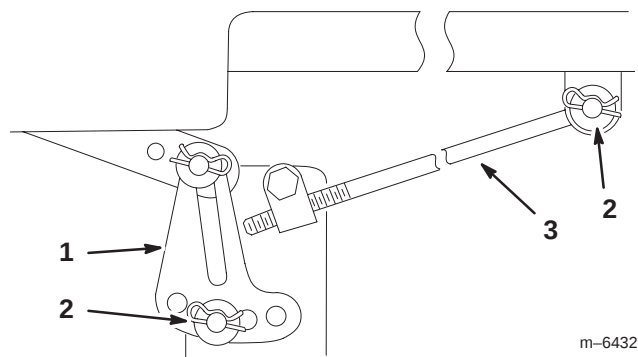

Figure 47
Note: Before removing the mower, make a note for which holes are used in the leveling brackets (Fig. 47).
5. Remove the hairpin cotter and washer from the adjusting rod (Fig. 47) on each side of the mower.
6. Remove the hairpin cotter and washer at the mower leveling brackets (Fig. 47) on each side of the mower. Note which hole the leveling bracket is mounted in for future installation. Slide the brackets off of the mounting pin.
5. Attach the adjusting rod to the tractor with the washer and hairpin cotter (Fig. 47) on each side of the mower.
6. Slide the leveling brackets onto the mounting pins and secure them with the washers and hairpin cotters (Fig. 47).